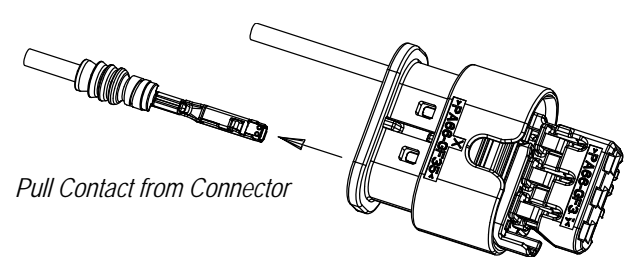

Figure 6
2. Insert the tip of a small pin or similar device into the release window for the contact to be removed, and gently pry the locking latch away from the contact locking feature (this will release the contact). See Figure 6, Detail A.
3. Using the wire, pull the contact from the connector. See Figure 6, Detail B.